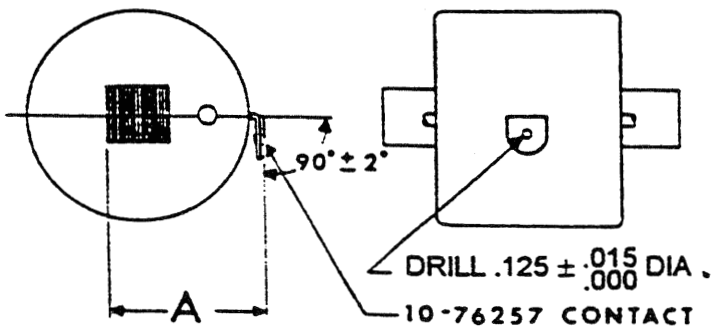

Figure 801. Correct Terminal Dimensions
- D. After contact and terminal have cooled, clean with alcohol. Check the $90^\circ \pm 2^\circ$ angle as indicated in Figure 801. Dimension A shall be 1.246 inch maximum.